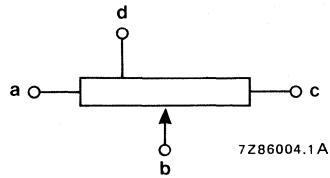

Fig. 1 Designation of terminals.
**Total resistance ( $R_{ac}$ )** — The resistance measured between the end-terminals a and c (Fig. 1). Also  $R_{tot}$  or  $R_{total}$ .
**Nominal resistance ( $R_{nom}$ )** — Nominal value of the resistance between the end terminals a and c (Fig. 1), the moving contact b at end-stop position.